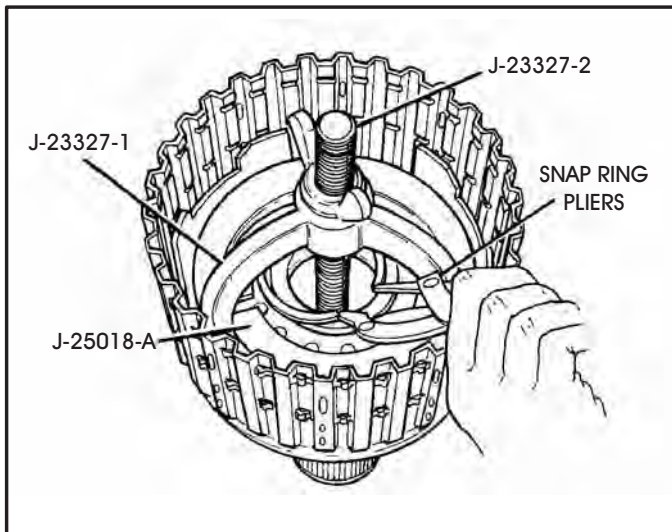

Figure 119
14. Compress the 3rd clutch housing against input clutch piston return spring and install the snap ring, as shown in Figure 119.